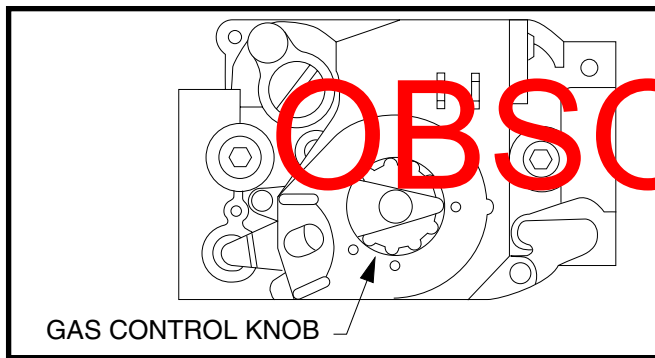

Figure 28. Direct Ignition Gas Valve - Honeywell
3. Remove the furnace door and turn off the gas valve. Push in and turn the gas control knob clockwise to **OFF**. See Figure 28 \(page 20\).
4. Wait ten (10) minutes to clear out any gas. If you smell gas, **STOP!** and follow the Safety Information. If you do not smell gas, proceed to step 5.
6. Turn the gas valve ON. Push in and turn gas control knob counter-clockwise to **ON** (Figure 28).
4. Turn gas control knob clockwise to **OFF** (Figure 28).
2. Verify the furnace On-Off switch is in the ON position. See Figure 27 \(page 15\) or Figure 28 \(page 20\).